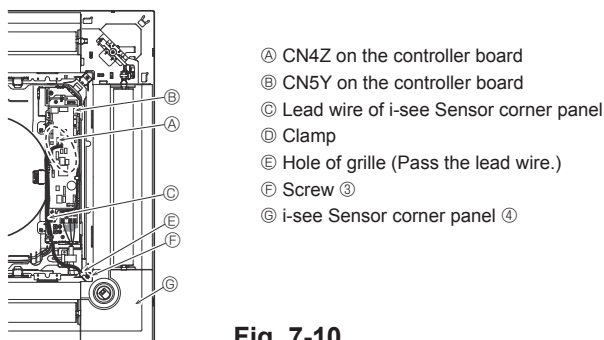

Fig. 7-10
7.4.6. Installation of i-see Sensor corner panel (Fig. 7-10)
- Route the lead wire connector (white, 4 poles and white, 5 poles) of the i-see Sensor corner panel (4) from the side of the electrical box on the main unit and connect to the connector CN4Z and CN5Y on the controller board.